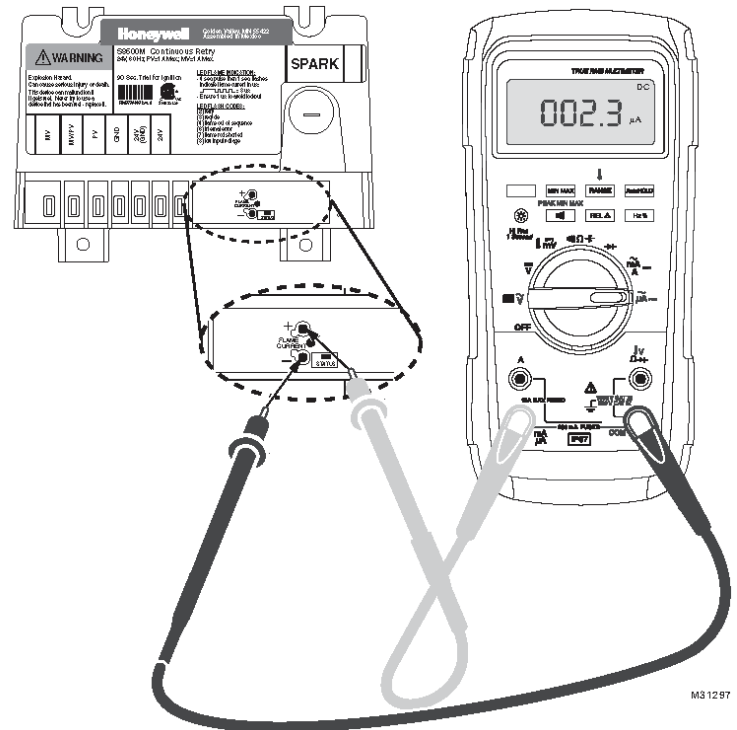

Figure 14: Measuring Pilot Flame Current with Micro-ammeter
1. Flame Current Measurement Procedure. See Figure 14 “Measuring pilot flame current with micro-ammeter”
- a. Pilot flame current in micro amps can be measured using any standard micro-ammeter by inserting the meter probes into the module holes labeled FLAME CURRENT as shown in Figure 14.